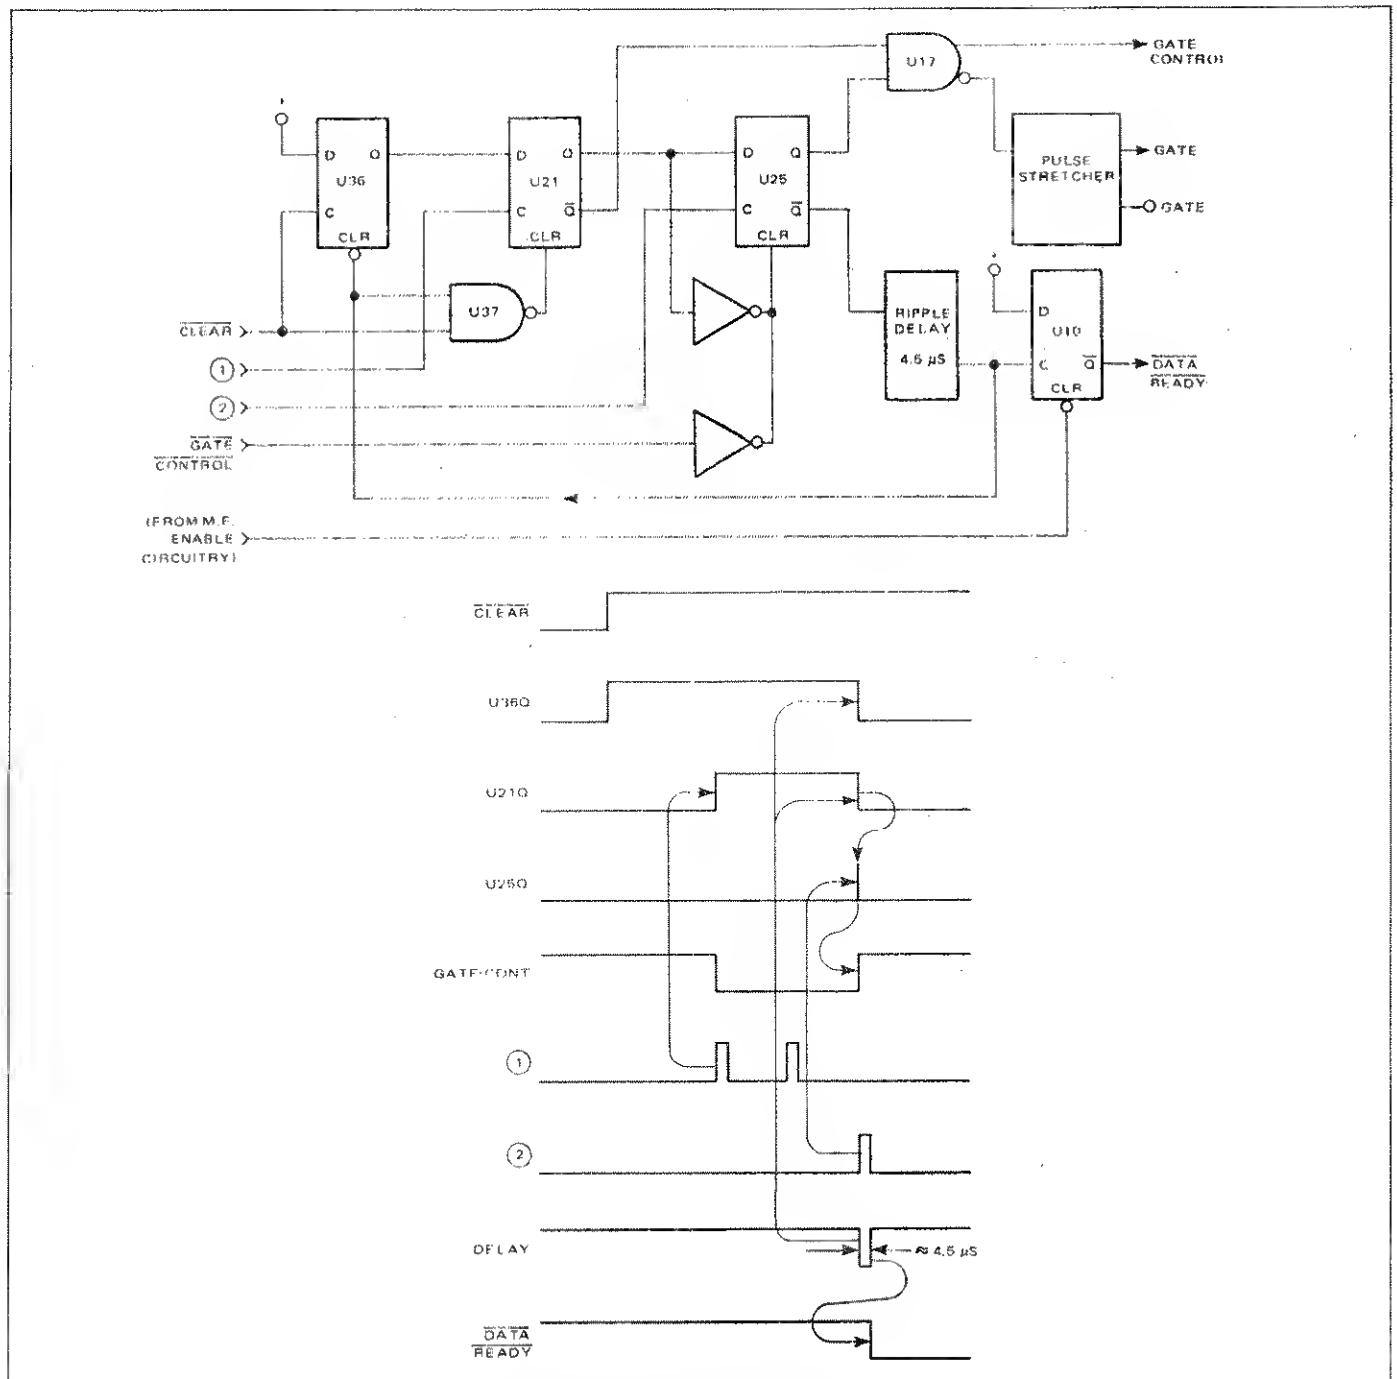

Figure 4.21 - Gate Control
control signal, the DATA READY signal, the gate light control signal, the GATE signal on the rear panel, and, with PARALLEL ENABLE, the UPDATE signal. Referring to figure 4.21, the circuitry is armed when CLEAR goes high setting U36Q true. A positive going edge at input ① sets U21Q high and U21Q low setting the gate control signal false and enabling the GATE circuit. This state continues regardless of what the ① input level is. A positive going edge at ② sets U25Q high, setting the gate control signal false and inhibiting the GATE circuit. At the same time U25Q goes low generating a 4.5 microsecond negative going